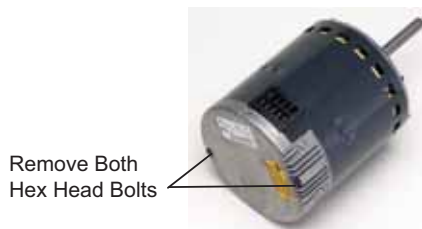

Figure 16.
- 4 - Remove the two hex head bolts securing the motor control module to the motor (**Figure 16**).
- 3 - Mount new motor control module to motor using two hex head bolts removed in **Figure 16**. Torque bolts to 22 inch pounds or 1/16th clock wise turn.
When pressure testing gas lines, the gas valve must be disconnected and isolated. Gas valves can be damaged if subjected to more than 0.5psig (14" W.C.). See **Figure 16**. If the pressure is equal to or less than 0.5psig (14"W.C.), close the manual shut-off valve before pressure testing to isolate furnace from gas supply.